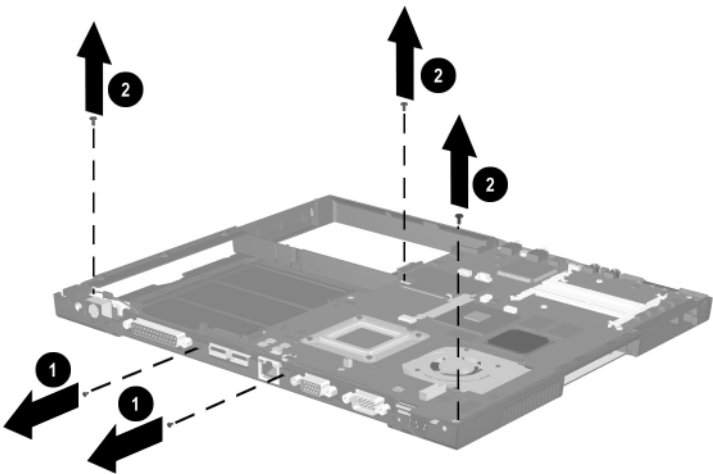

Figure 5-23. Removing the System Board Screws on Evo Notebook N620c and N610c Models
6. Remove the two TM2.5 × 5.0 screws ❶ that secure the system board to the base enclosure through the rear panel (Figure 5-23).
7. Remove the three TM2.5 × 5.0 screws ❷ that secure the top cover to the base enclosure.